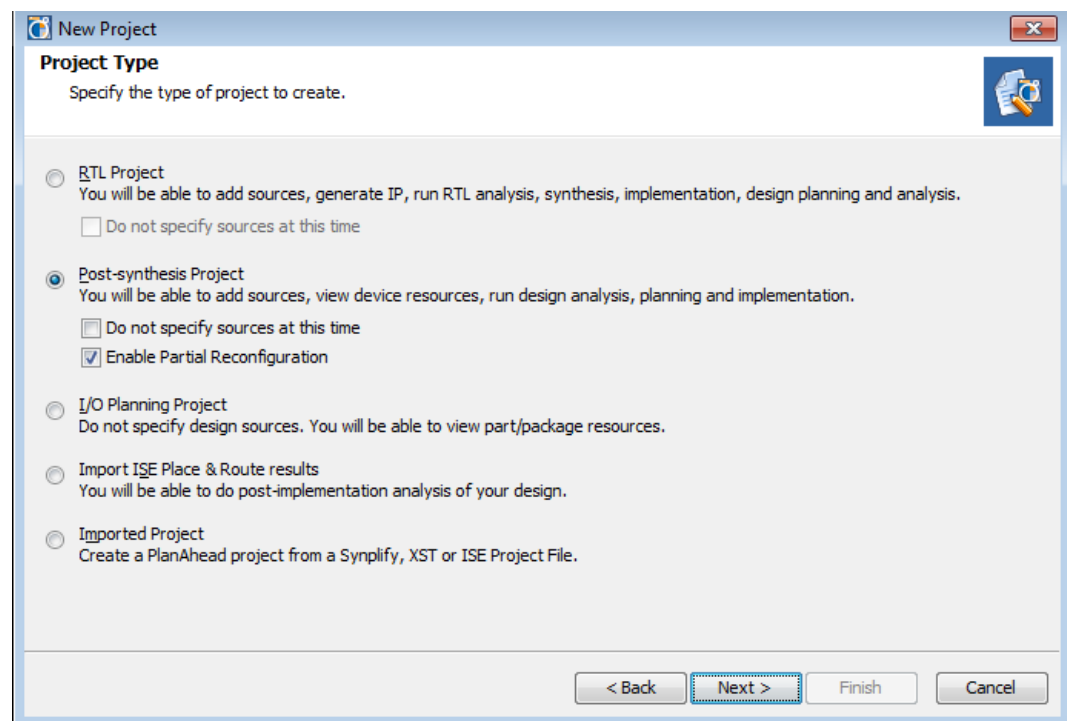

Figure 4-1: New Project Wizard
1. Launch the New Project Wizard and, after specifying a project name and location, select **Specify synthesized (EDIF or NGC) netlist**. PR projects cannot start at the RTL level in the PlanAhead software. Select the **Enable Partial Reconfiguration** option to define this as a Partial Reconfiguration project. Figure 4-1 shows the New Project Wizard.